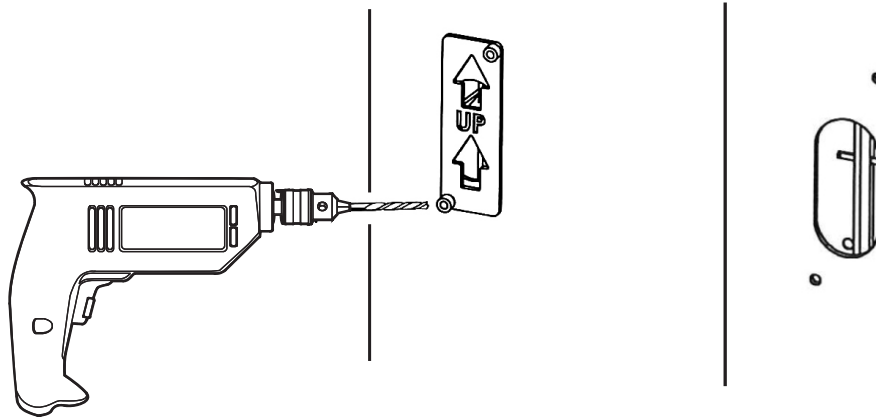

Figure 30
1. Using a #7 drill bit, drill two (2) holes completely through door, making sure drill remains square to face of door. (Figure 30)